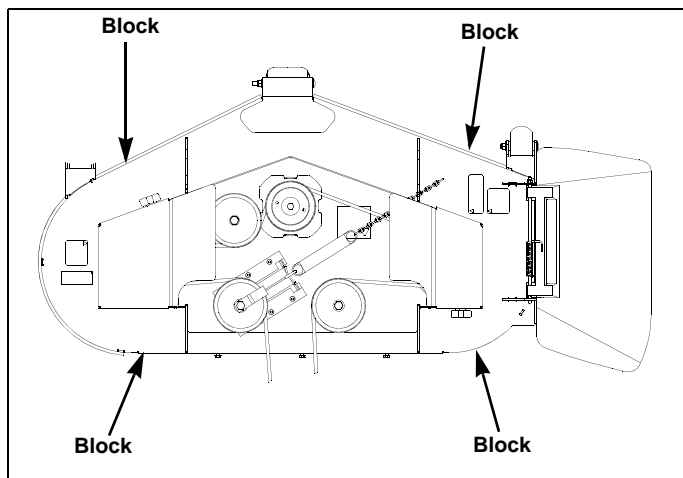

Figure 6-1
3. Place 3" high deck support blocks (two stacked 2" x 4" blocks can be used to create a 3" [7.62cm] high support) at the four corners of the deck as shown. Figure 6-1